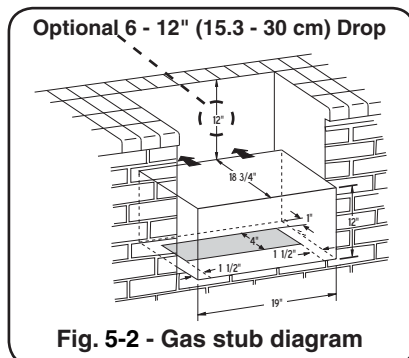

Fig. 5-2 - Gas stub diagram
**Note:** We recommend you build the enclosure for the power burner 6"-12" (15.2 cm- 30.5 cm) LOWER than your countertop (see Fig. 5-2). This will ensure a safer environment when using tall cooking pots like the turkey fryer, which can hold 40 lbs of hot oil.
Install the gas line stub at least 1 1/2" (3.8 cm) away from the side walls and 1" (2.54 cm) from the back wall, but within 5" (12.7 cm) of the back wall, as illustrated by the shaded area in Fig. 5-2.